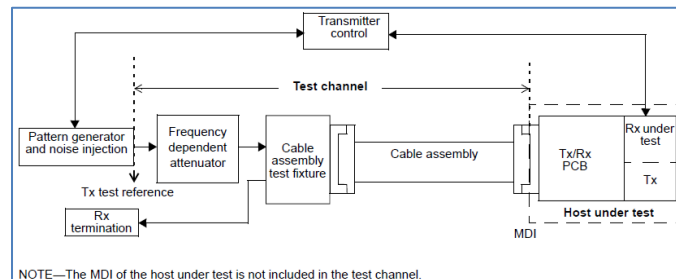

FIGURE 99. INTERFERENCE TOLERANCE TEST SETUP SCHEMATIC (REFERENCED FROM IEEE802.3CK STANDARD, FIGURE 110-3A)
2. Referring to Figure 99 below, allow the Rx equalizer value to automatically optimize or set sweep to determine the minimum BER result. Set the Tx (NEXT crosstalk) of the DUT to the **PRBS31Q** pattern, **Preset 0**, and Output **On**.